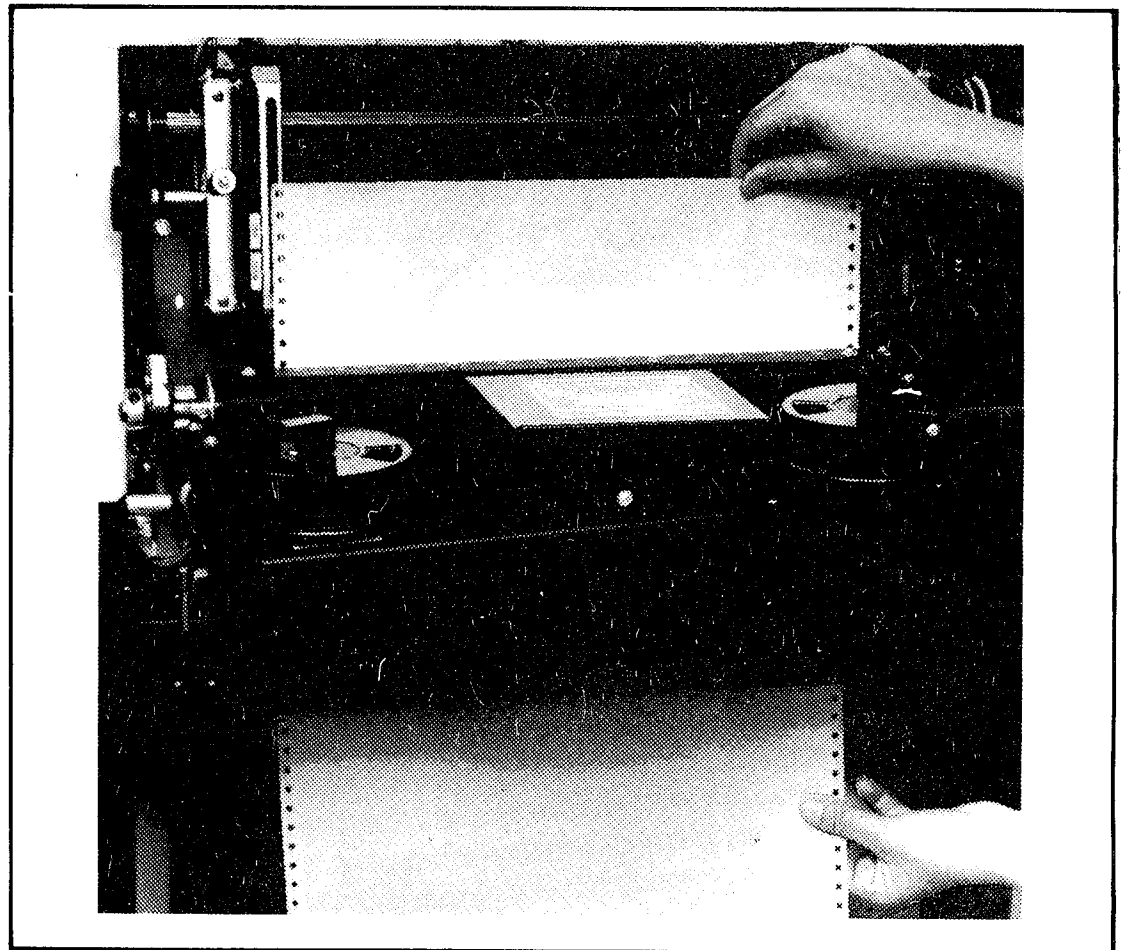

Figure 5. Positioning Forms
- Keeping paper parallel with tractors, raise and position it on tractor feed pins (Figure 5). If paper is too wide or too narrow to fit on both tractors, loosen knurled nut on right-hand tractor and move tractor until feed pins and sprocket holes line up. Position paper on feed pins and close tractor gates.